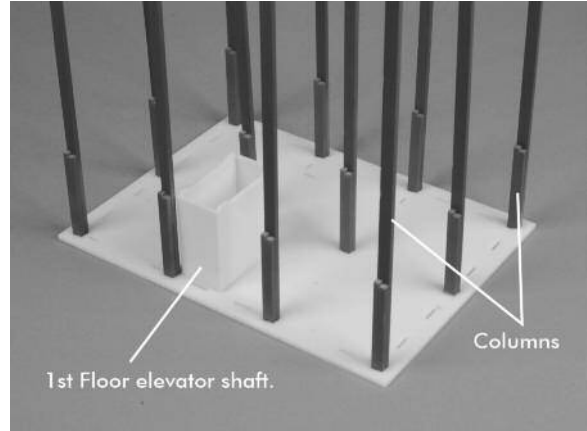

Figure 5
Glue the elevator shaft to part (A) using the slots for alignment. Glue the twelve columns to part (A) using the figures for proper orientation. The entire assembly will be quite floppy at this point. See Figure 5.